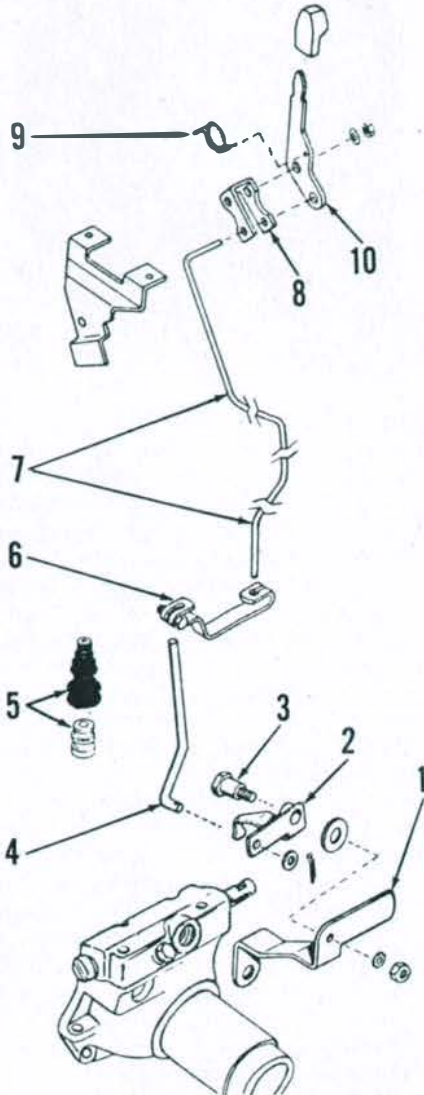

Fig. 144--Exploded view of Multi-Power shift control linkage and associated parts.
146. Multi-Power shift control valve spool must move fully to high and low positions as hand control lever (10—Fig. 144) is moved to top and bottom of slot in instrument panel. To adjust linkage, move hand control lever towards "HIGH" position until front of lever is within 1.6 mm (1/16 inch) from top edge of quadrant slot. Loosen clamp bolt securing link (6) to lower rod (4), then push lower rod downward as far as it will go. Retighten clamping bolt to lock the adjustment.